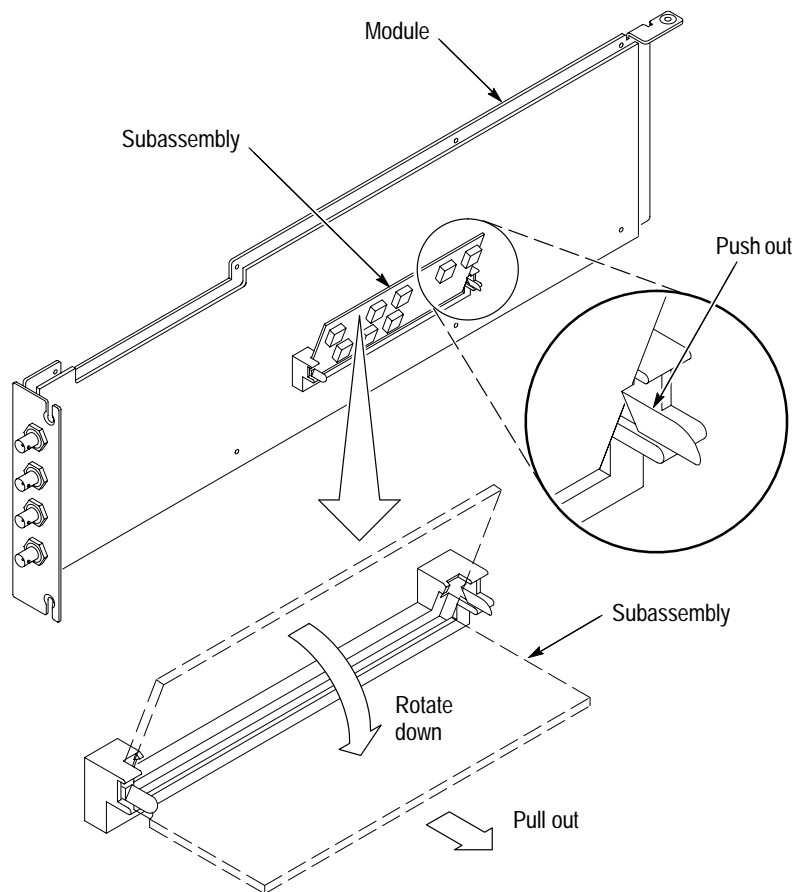

Figure 6-3: Removing a subassembly from a module
3. Remove the subassembly from the AVG1 Generator module by moving the retaining tabs away from the Delay board and swinging the board down and out. See Figure 6-3.